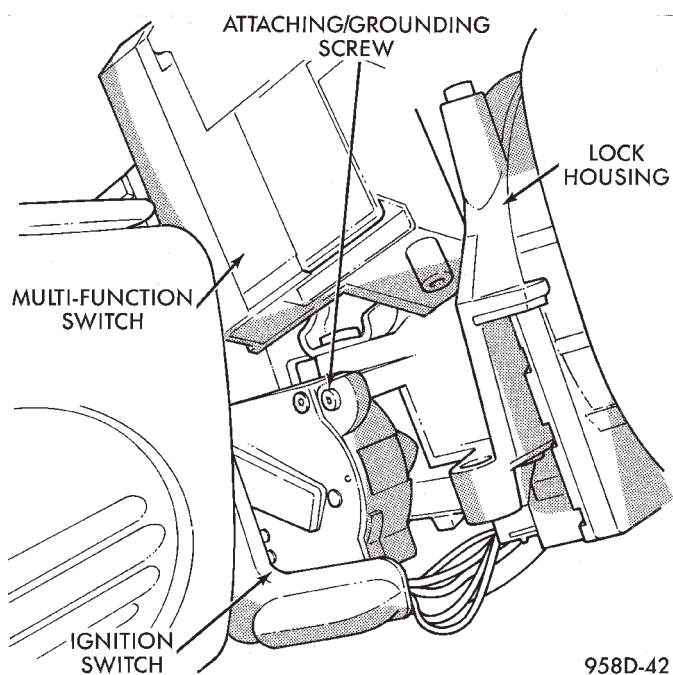
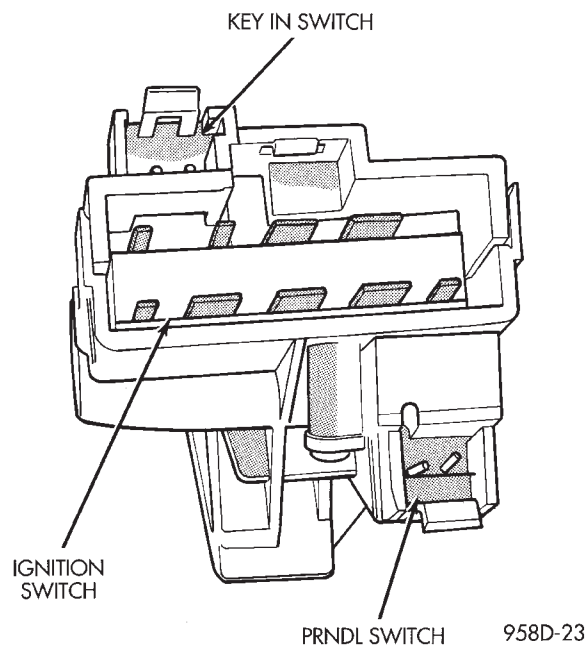
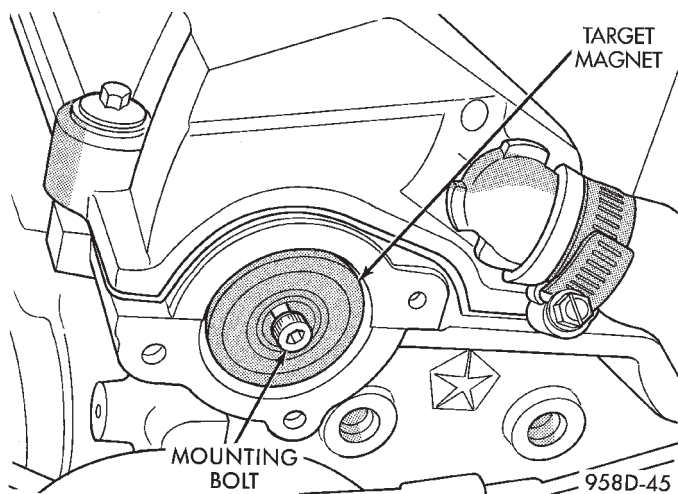

Fig. 70 Ignition Switch
Fig. 71 Ignition Switch Connectors
Fig. 72 Ignition Switch Installation
(13) Disconnect electrical connectors from ignition switch (Fig. 70) and (Fig. 71).
(14) Remove ignition switch mounting screw (Fig. 70) with a #10 Torx® tamper proof bit.
(1) Ensure the ignition switch is in the RUN position and the actuator shaft in the lock housing is in the RUN position.
(2) Carefully install the ignition switch. The switch will snap over the retaining tabs (Fig. 72). Install mounting screw (Fig. 70).
(3) Install electrical connectors to ignition switch.
(4) Install upper and lower shrouds.
(5) Install key cylinder (cylinder retaining tab will depress only in the RUN position).